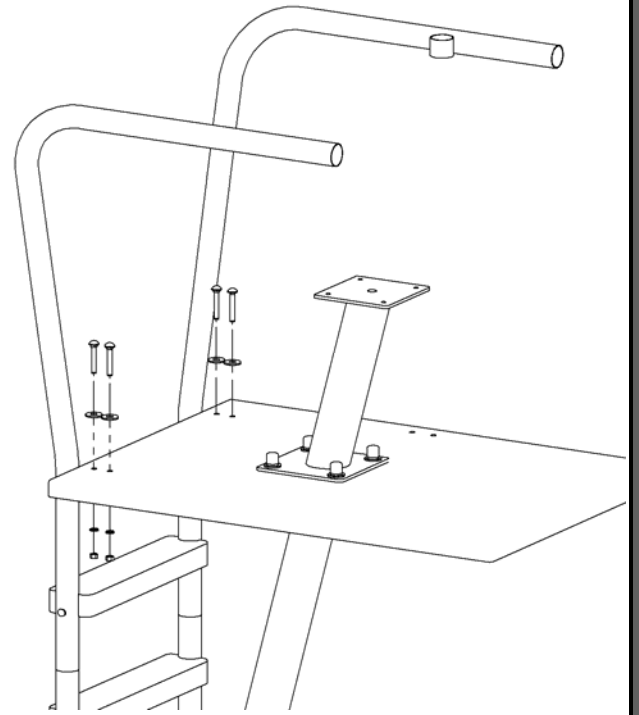

FIGURE 5
5. Attach both side rails to the footboard using (2 ea.) $\frac{3}{8}$ "x2- $\frac{1}{2}$ " carriage bolt, $\frac{1}{2}$ " flat washer, $\frac{3}{8}$ " lock washer, and $\frac{3}{8}$ " hex nut. **FIGURE 5**